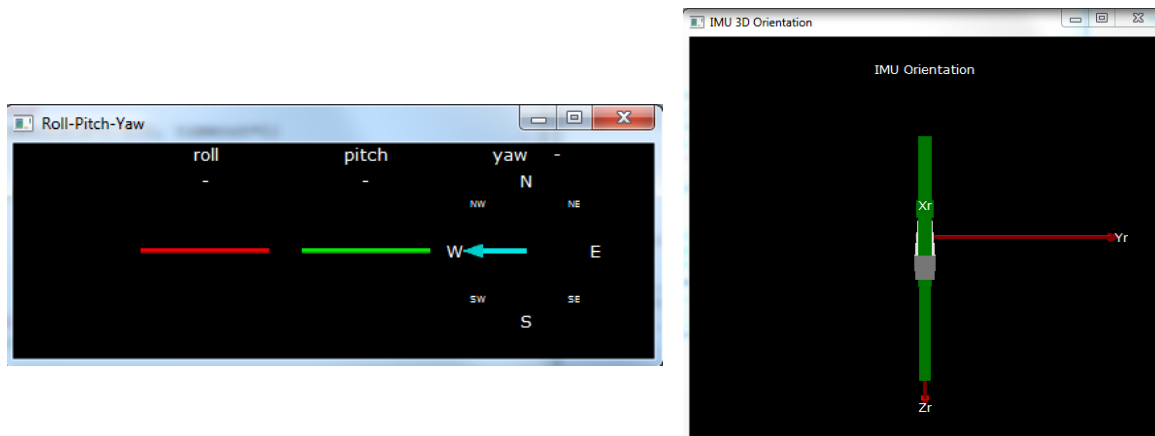

Figure 1 A Python GUI program for the demonstration.
- A 3D GUI program written in Python will be provided in Wattle as shown in Figure 1 below. It will be helpful to visualise the orientation and testing the system. It requires a *pyserial* module in the desktop PC.